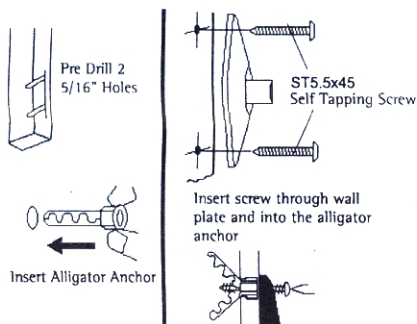

Figure 8
2. Drill holes in the drywall using a 5/16" drill bit (Figure 8).
3. Once the holes are drilled, insert the alligator anchor into the holes. Make sure the anchor is flush with the wall and/or ceiling surface (Figure 8).
4. With the anchors in place, mount the wall plates using the ST5.5x45 self tapping screws (Figure 8).